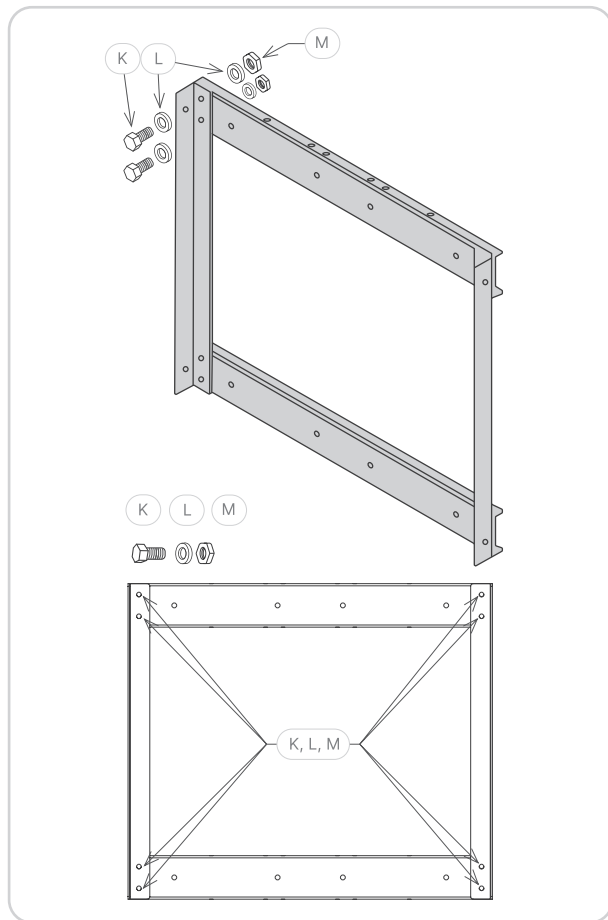

Figure 2. Corner and rear bracket assembly.
Assemble the **Corner (B)** and **Rear (C)** assembly as shown in **Figure 2** using (K), (L), and (M) as illustrated in **Step 1 Inventory of package**.